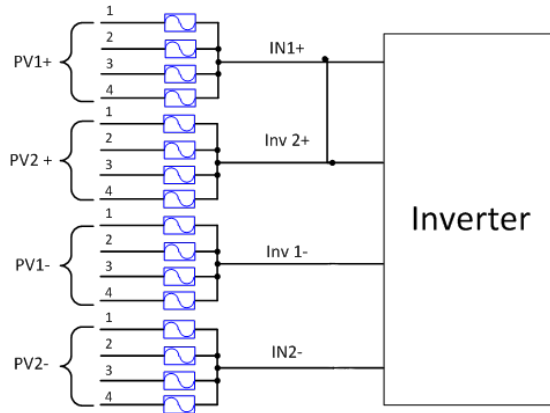

Figure 2.27 - Two MPPTs Combined to Operate as One
(1) Connect the AC (L1, L2, L3) cables to the terminal block and use the OT type terminal to connect the ground cable to the internal grounding stud inside the wiring box. (see the 2nd graph in Figure 2.27) Set up the cables referring to Figure 2.29.